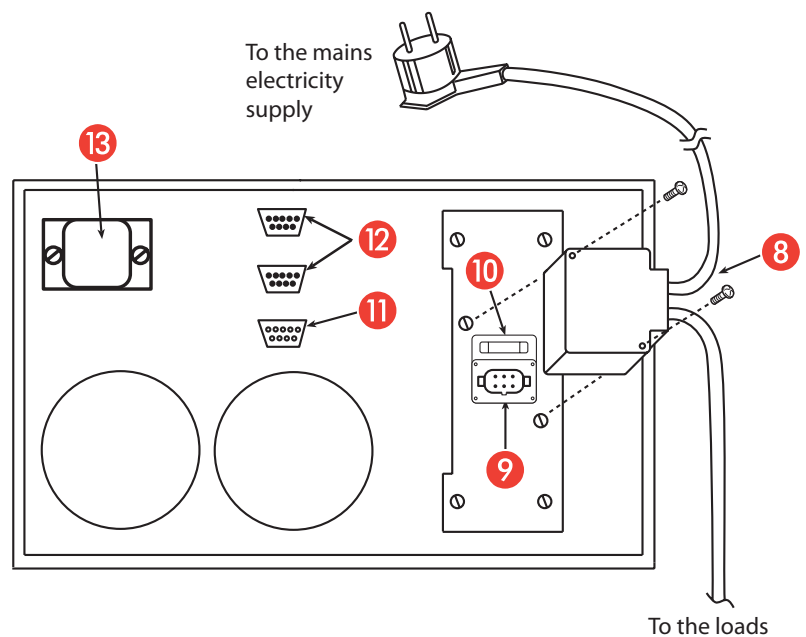

Fig. 2
Singolo Cabinet (fig. 2):
4. Put the Input-Output connector into the plug [9] located on the rear of the UPS, and secure to its case using the screws supplied (see fig. 2).